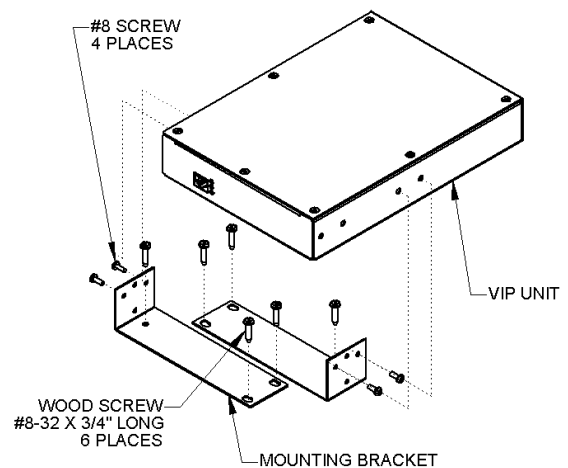

Figure 2. Wall Mount
**Wall:** Using the template on last page of this document, mark the location of the bracket screw holes on the wall. Drill 5/64" pilot holes, 3/4" deep, at each screw location and use the wood screws provided to attach the brackets to the wall. For surfaces other than wood, use hardware appropriate for the surface (not included). With the brackets securely attached to the wall, attach the VIP-812A to the brackets using the included hardware. Figure 2 illustrates the bracket assembly.